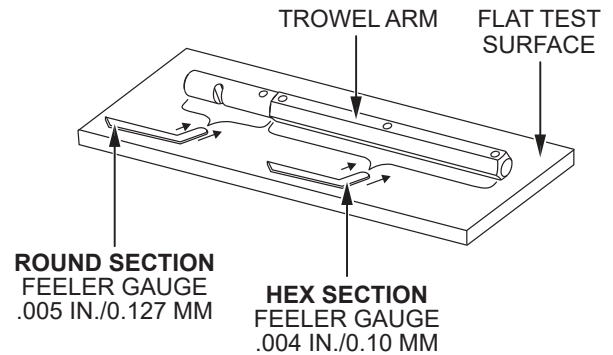

Figure 65. Trowel Arm Inspection
1. Place the trowel arm on a thick, steel plate, granite slab, or any other surface which is **true** and **flat** (Figure 65).
2. Check each of the six sides of the trowel arm hex section (Figure 65). A feeler gauge of .004 inch (0.10 mm) should not pass between the test surface and the flat of the trowel arm at any point along its length on the test surface.
3. As the flat hex section rests on the test surface, use a feeler gauge of .005 inch (0.127 mm) to check the clearance between the round shaft section and the test surface. Rotate the arm to each of the flat hex sections and check the clearance between the round shaft and the test surface. The clearance between the round shaft and the test surface should be identical for each hex section. See Figure 65.